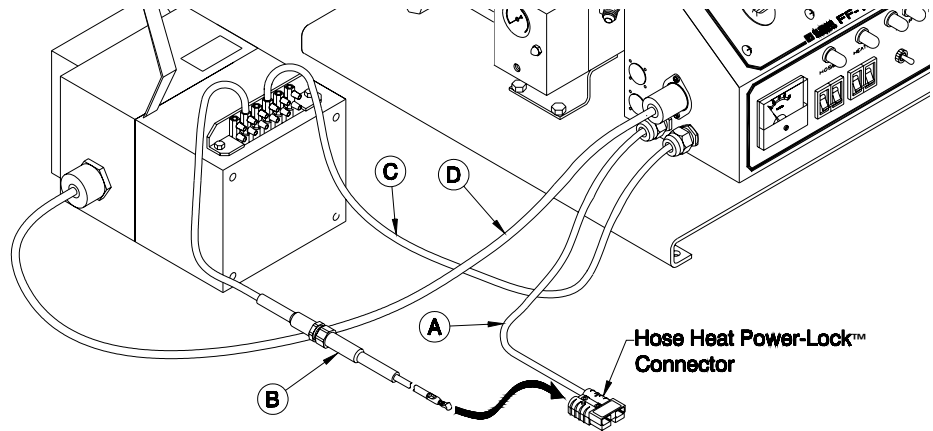

Figure 4. Manual Transformer Connections
2. Plug the tap wire with inline fuse (B) into the Power-Lock hose heat connector on the end of the console wire (A). (See Figure 4.)